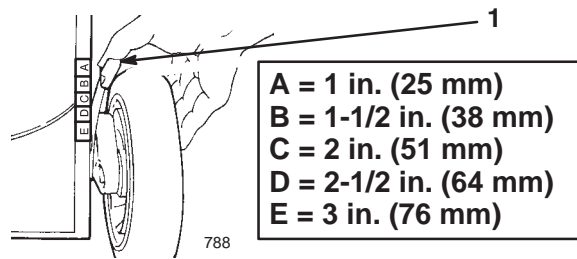

Figure 10
1. To change the cutting height, pull the cutting height lever toward the wheel and move it to the desired position (Fig. 10).